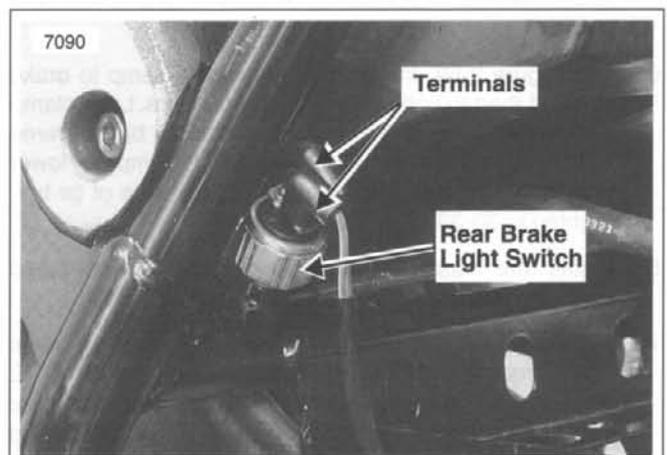

Figure 2-56. Rear Brake Light Switch
14. See Figure 2-56. Remove rear brake light switch from brake line.
13. See Figure 2-56. Connect rear brake light switch wires to rear brake light switch.